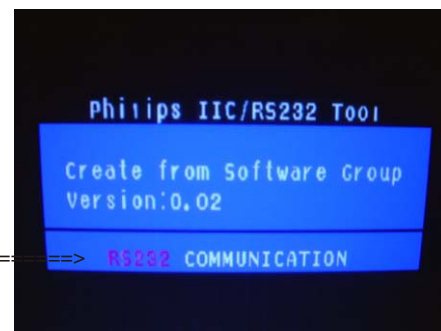

Fig. 5
- Press button1, the Red LED light should be at OFF status at this moment. Bring up Fig.5.